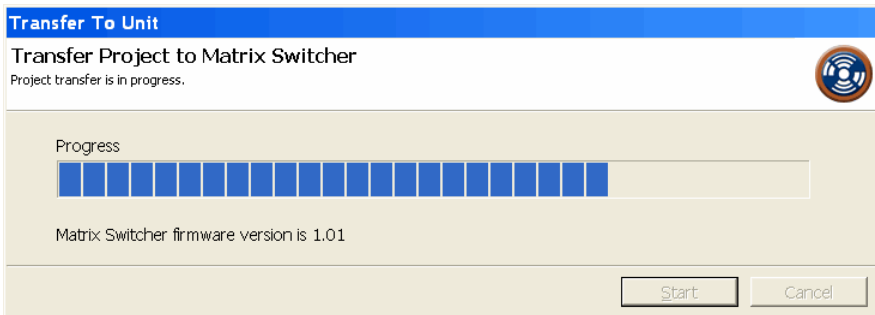

Figure 52 – A progress bar is displayed as the project is transferred
- vi) Click the Start button. A progress bar is displayed as the project is transferred (Figure 52). The project may take one or two minutes to transfer. If a Communications Failure message is displayed, select a different COM port and try again.